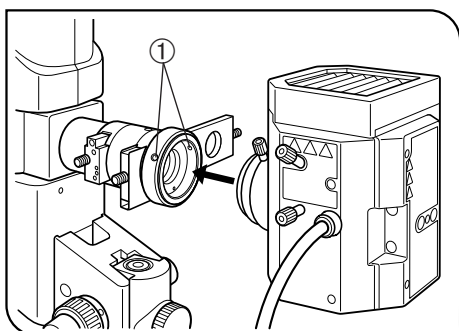

Fig. 43
1. Using the Allen screwdriver, loosen the two clamping screws ① on the lamp housing mount hole.
2. Fit the lamp housing all the way as shown in Fig. 43.
3. Tighten the clamping screws ① using the Allen screwdriver.